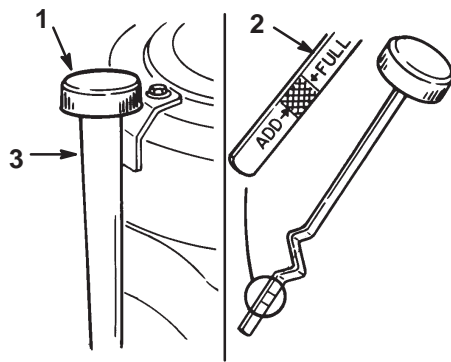

Figure 24
2. Clean around the oil dipstick (Fig. 24) so dirt cannot fall into the filler hole and damage the engine.
3. Unscrew the oil dipstick and wipe the metal end clean (Fig. 24).
4. Slide the oil dipstick fully into the filler tube, do not thread onto tube (Fig. 24). Pull the dipstick out and look at the metal end. If oil level is low, slowly pour only enough oil into the filler tube to raise the level to the full mark.
7. Slowly pour approximately 80% of the specified oil into the filler cap (Fig. 24). Refer to Servicing the Engine Oil, page 28.